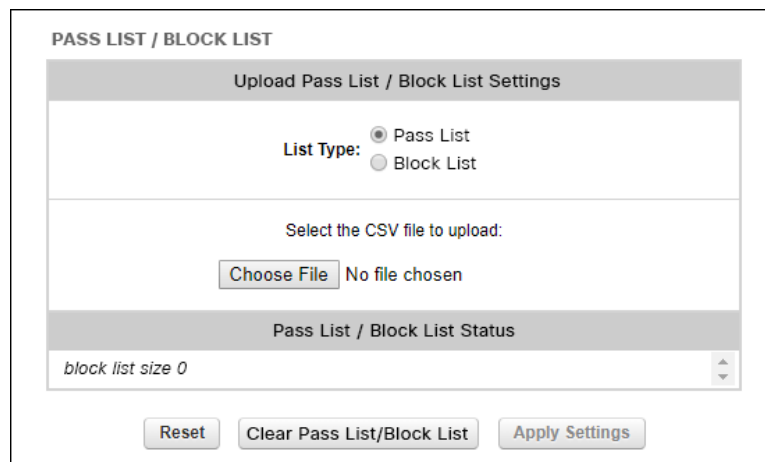

Figure 37. Configurator (Pass list / Block list dialog)
- The **Pass list / Block list** dialog will be shown (Figure 37 \(page 100\)).